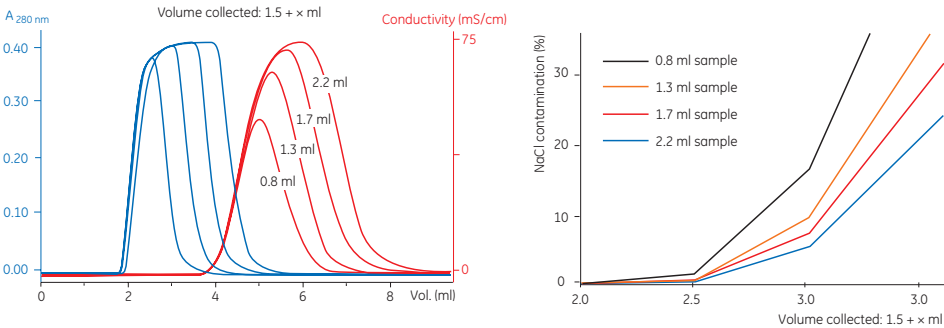

Fig 5.12. Influence of sample volume on separation using a HiTrap Desalting column.
4. Determine the maximum sample volume that can be loaded. Figure 5.12 shows an example of the influence of sample volume on group separation.